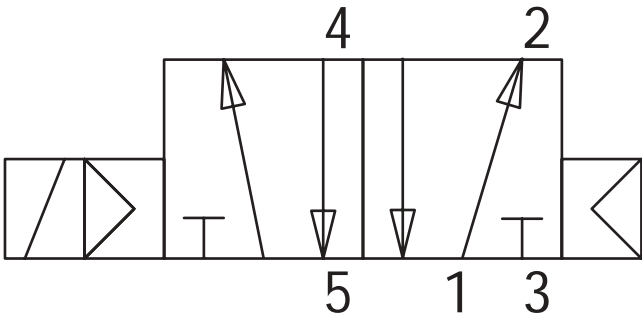

Figure 63
Dorner recommends using a 5 port, 2 way solenoid valve (Figure 63) to operate the Lift and Rotate Pallet Unit.
1. Connect Port 4 (Figure 63) of the 5 port, 2 way solenoid to the lowest port (Figure 66, item 1) on the lift. Dorner fittings accept 1/4" outside diameter tubing standard.
2. Connect Port 2 (Figure 63) of the 5 port, 2 way solenoid to the upper port (Figure 66, item 2) on the lift. Dorner fittings accept 1/4" outside diameter tubing standard.